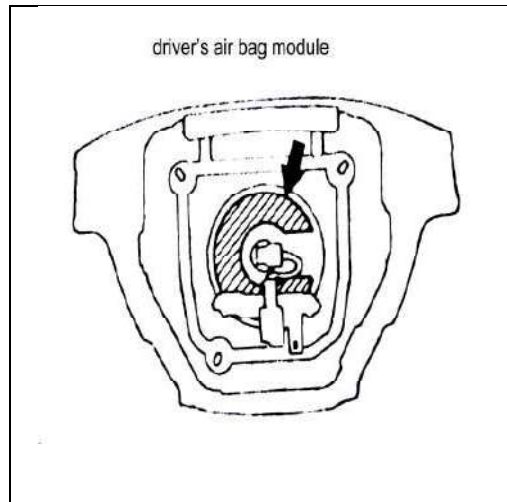

Fig 19-16
(2) Driver's air bag module(See fig 19-16)